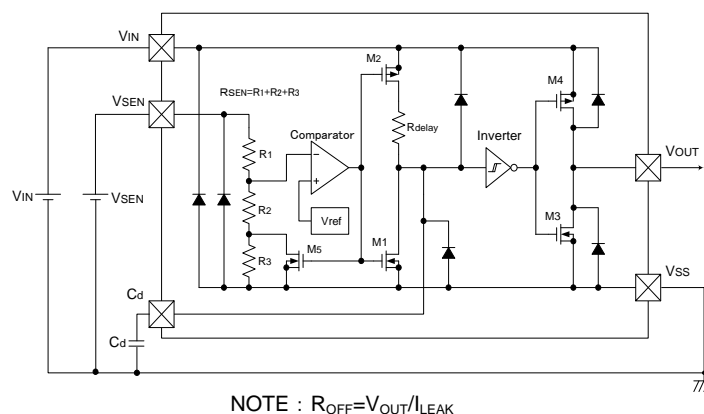

Figure 4: Circuit example of XC6118N Series
7. In N channel open drain output, VOUT voltage at detect and release is determined by resistance of a pull up resistor connected at the VOUT pin. Please choose proper resistance values with refer to Figure 4;